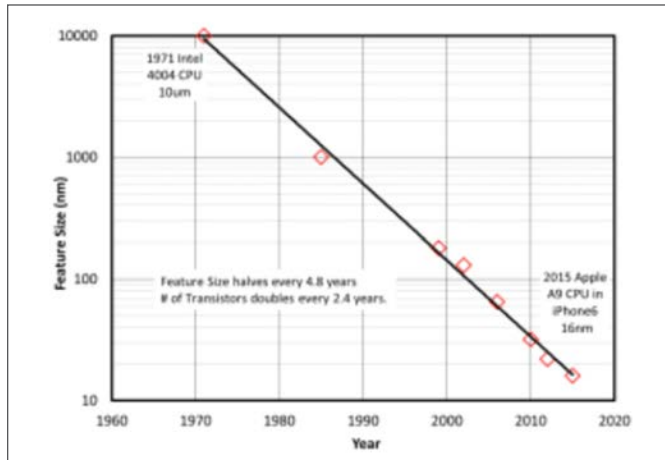
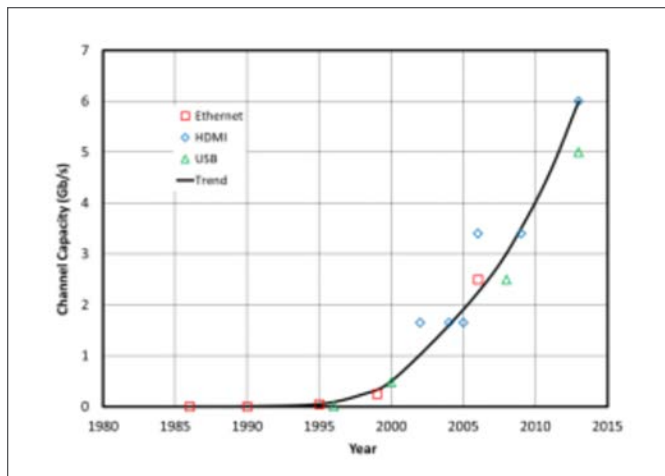

Figure 1: Process Node Trends
Figure 2: Channel Capacity Trends
Correctly choosing an external (off chip) Transient Voltage Suppressor (TVS) is not as simple as it once was. Integrated Circuit (IC) feature size is shrinking (Figure 1) and more and more inputs are being exposed to the outside world. Portable consumer devices are everywhere and have more functions in smaller and smaller sizes, necessitating smaller and smaller TVS packaging. At the same time, the demand for bandwidth is sky-rocketing, as witnessed by three popular technologies: Ethernet, HDMI and USB (Figure 2).